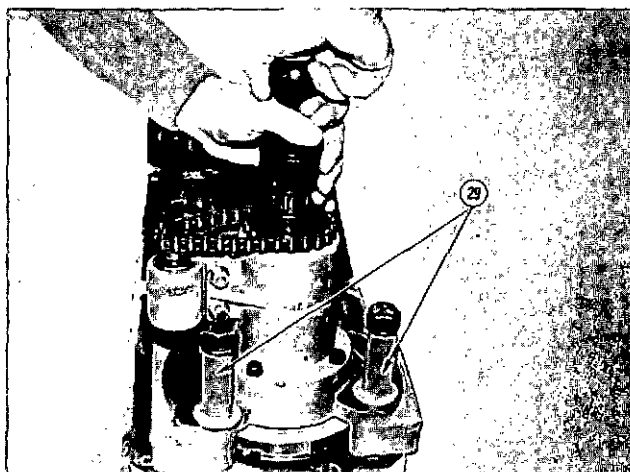

Fig. 1-17 (N101104). Align The Tool In The Counterbore.
3. Align the tool in the counterbore by using the guide plate. Turn the knob on the body counterclockwise to unlock the drive mechanism. Push down on the knob until the guide plate is in the counterbore, Fig. 1-17. Rotate the guide plate to make sure it is aligned and does not touch the sides of the counterbore.